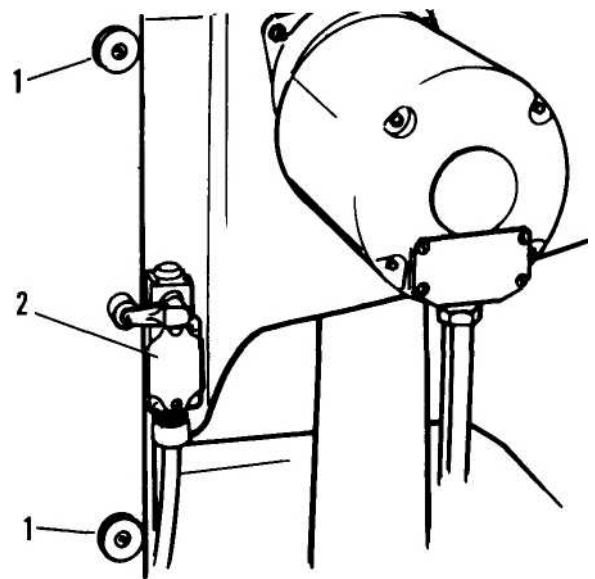

Figure 12. Knee Limit Stops (Power Elevate)
## KNEE LIMIT STOPS (POWER ELEVATE ONLY) (Figure 12)
Limit stops (1, figure 12) are fixed in position on column by factory to determine maximum vertical travel of knee under power. Limit switch (2) on left side (rear) of knee engages stops. Limit stops **do not** allow for cutter or workpiece clearances.